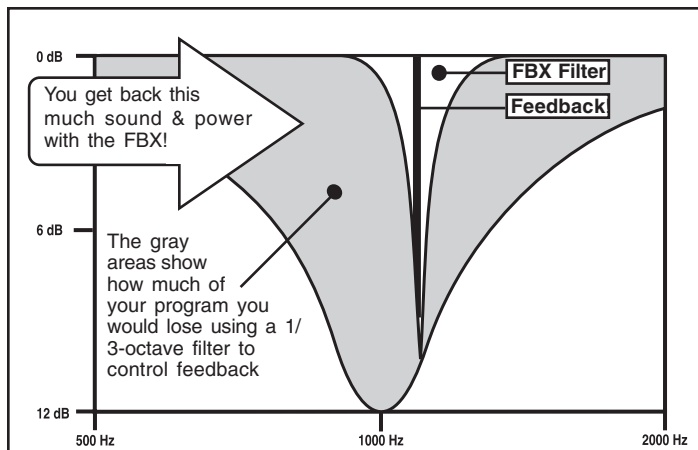

Fig. 14b - What FBX Gives Back to your Program
2. A second advantage is that FBX micro-filters are precisely placed anywhere feedback occurs (with 1 Hz resolution), while graphic EQ filters are limited to 31 fixed center points. An FBX filter represents a direct hit on feedback! In contrast, a graphic EQ filter can only approximate the exact frequency of the feedback, and the filter (or filters) with the closest center frequency must be pulled down. Such filters are deepest at their centers, and such imprecise attenuation takes a big (and unnecessary) chunk out of your sound (see figure 14b).